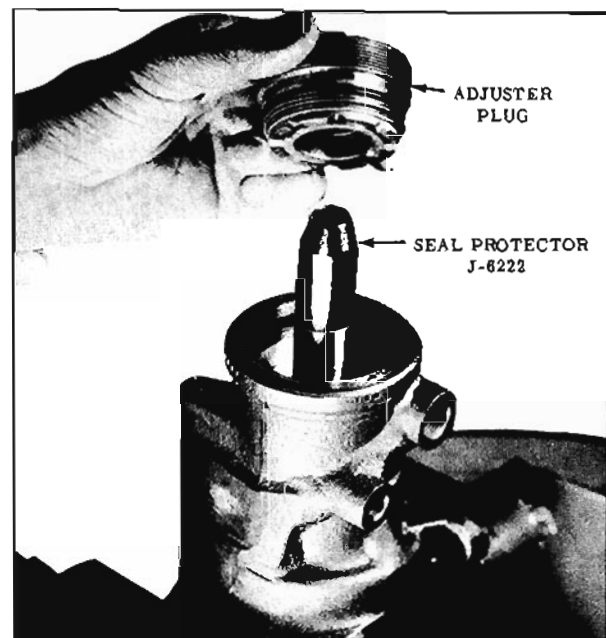

Fig. 8-70 Installing Adjuster Plug
3. Lubricate a new adjuster plug "O" ring with petrolatum and install in groove on adjuster plug. Place Seal Protector J-6222 over lower shaft, then install the adjuster plug assembly in the housing until it seats against the valve body. (Fig. 8-70) Remove Seal Protector. Do not adjust the thrust bearing pre-load at this time.